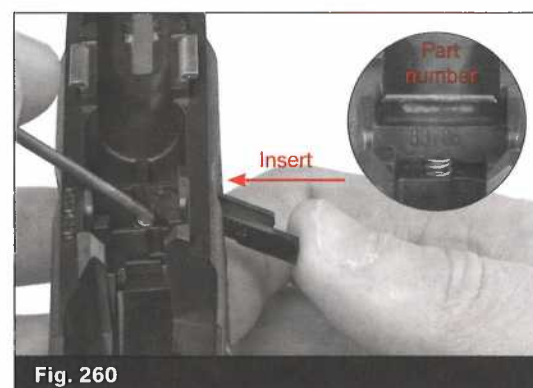

Fig. 260
- Insert the slide lock through the slot on either side of the receiver at the angle shown. Press the slide lock spring down with a GLOCK tool so that the slide lock is able to go over the slide lock spring. Then slide the slide lock through the opposite receiver slot so the center of the lock will sit down properly on top of the coil spring. (Fig. 260)